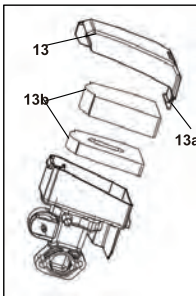

Fig. 28
2. Press two latches (13a) to disengage the air filter cover (13) and remove the air filter cover (13) afterwards (Fig. 28).